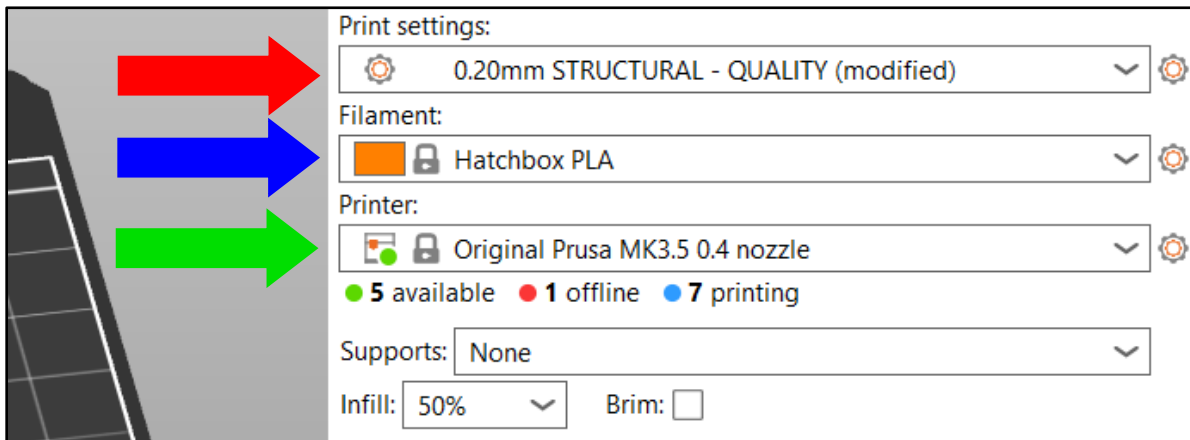

Figure 4. Main Plate Settings.
5.) Go back to the “Plater” tab in the top left corner of PrusaSlicer. Then click the “Print settings” drop-down menu and select the 0.20mm Structural option (see red arrow in Figure 4).
6.) Open the Filament drop-down menu (see blue arrow in Figure 4) and select the filament type you want to print in.
7.) Open the Printer drop-down menu (see green arrow in Figure 4) and select your printer make and model.